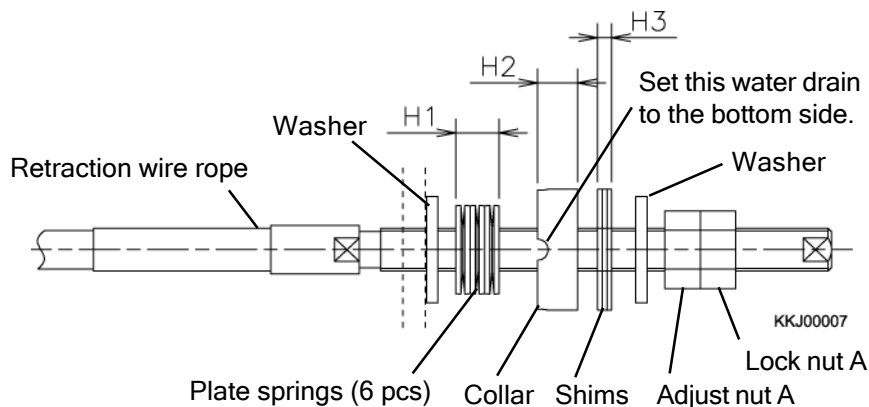

Fig. 2-26 Retraction wire end
- 3) Loosen the Lock nuts A and the Adjust nuts A at the terminal end of the retraction wire ropes, and then make sure that the 6 plate springs, shims, 2 washers and 1 collar are assemble at the end of the retraction wire rope as shown in the Fig. 2-26.